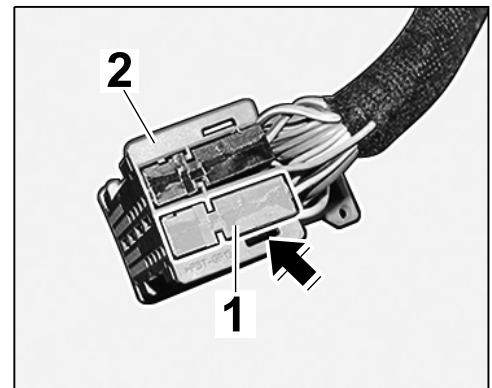

Figure 20
- 2.5.6 Push grey plug socket ⇒ *Figure 20 -1-* into the plug carrier ⇒ *Figure 20-2-* until the locking mechanism ⇒ *Figure 20-arrow-* engages.